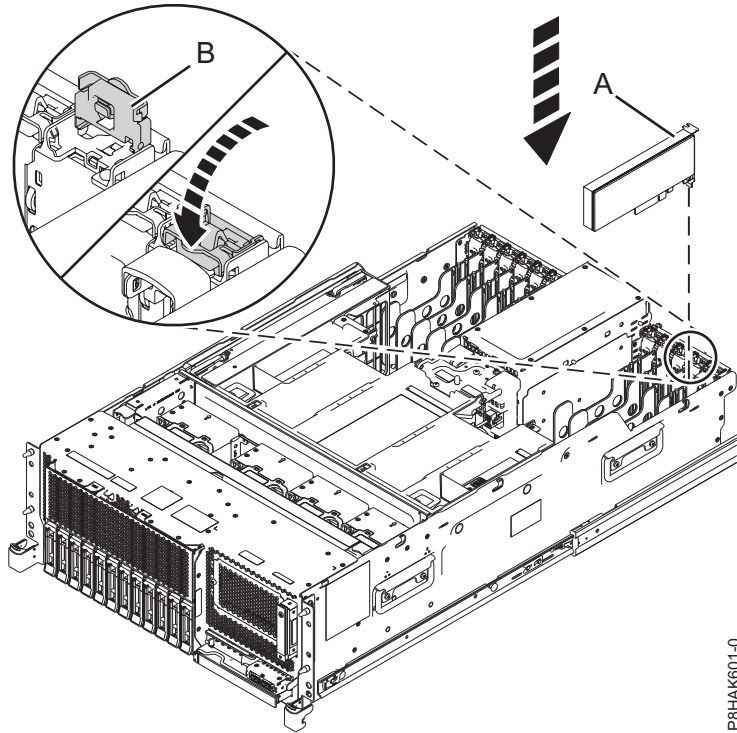
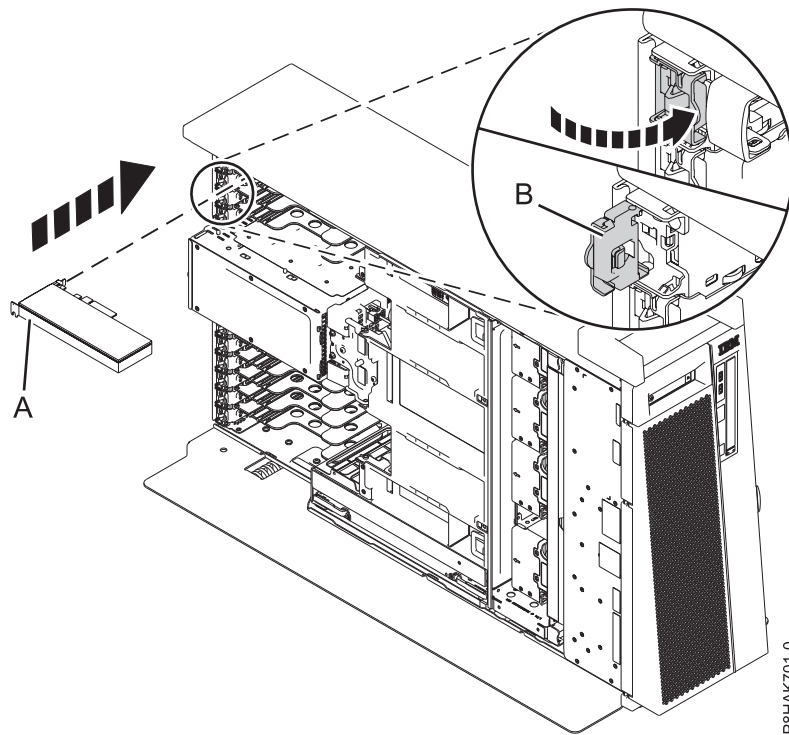

Figure 27. Installing or replacing a PCIe adapter in a rack-mounted system
Figure 28. Installing or replacing a PCIe adapter in a stand-alone 8286-41A system
6. If the adapter latch (**B**) at the target slot is not already in the open position, pull the latch into the open position by rotating the latch outwards from its clip on the back of the system, as shown in Figure 27 on page 30 and Figure 28 on page 30.
7. Carefully grasp the adapter by its top edge or tailstock, and align the adapter with the slot and its connector on the system backplane (**A**), as shown in Figure 27 on page 30 and Figure 28 on page 30.
10. To lock the adapter in its slot, rotate the adapter latch (**B**) in the direction that is shown in Figure 27 on page 30 and Figure 28 on page 30.